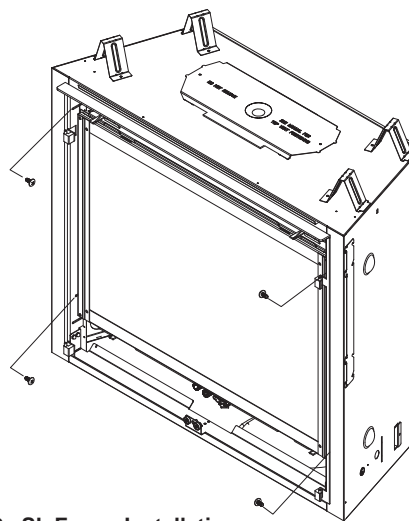

Figure 13. SL Frame Installation
6. Push frame flush to finishing material. Four slots in the frame will align with metal clips previously installed. Use the 4 supplied SL Series Mounting Screws Shown in Figure 3 to secure the frame in place. See Figure 13.